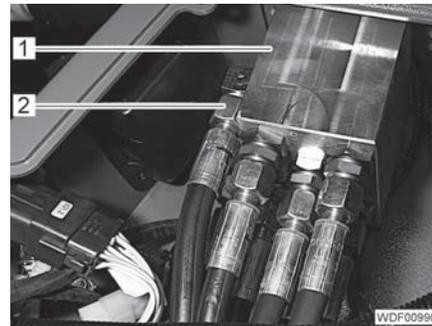

Fig. 355 Hydraulic lines
- Screw the 8 hydraulic lines (Fig. 355,2) onto the connections of the pilot control (Fig. 355,1) and tighten.